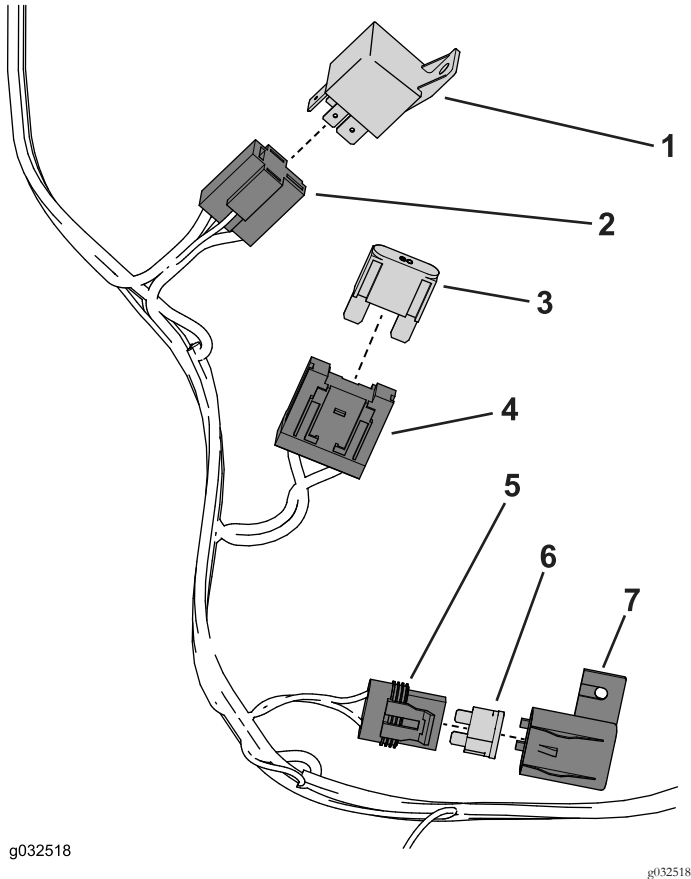

Figure 36
1. Assemble the following components to the wire harness (Figure 36).
2. Install the relay to the relay connector (Figure 36).
3. Install the fuse (60 A) to the fuse holder (Figure 36).
4. Install the fuse (10 A) to the fuse assembly and secure it with the fuse-assembly cap (Figure 36).